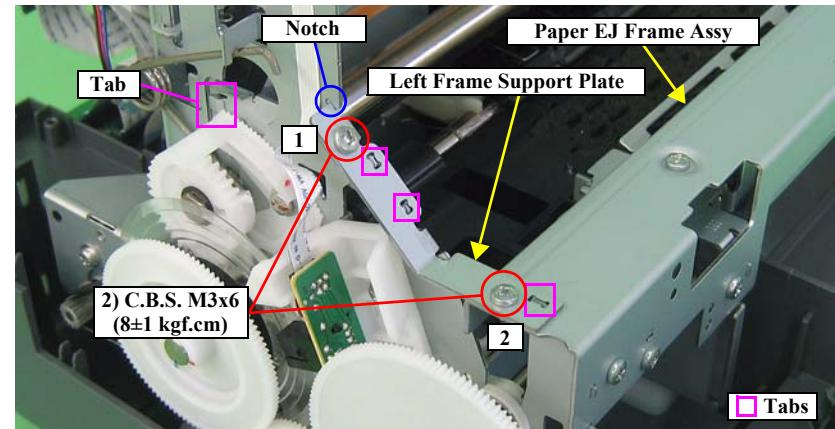

Figure 3-60. Removing the Left Frame Support Plate
- Insert the Left Frame Support Plate into the notch on the Main Frame. See Figure 3-60 (p.65)
- Align the two tabs on the Main Frame and the tab on the Paper EJ Frame Assy with the three positioning holes on the Frame Support Plate (Left). See Figure 3-60 (p.65)
- Align the tab (rear side) of the Left Frame Support Plate with the outside of the Left CR Shaft Mounting Plate. See Figure 3-60 (p.65)
- Tighten the screws in the order shown in Figure 3-60